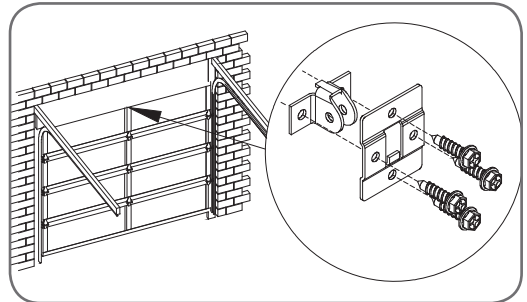

Fig. 22
The door bracket comes in two parts. The bottom plate with two mounting holes is used on its own for one piece doors. For sectional doors, the top plate is placed over the bottom plate and is fixed with four (4) screws (**Fig. 22**).
- Mount the door bracket, or bracket assembly, on the door's centre line one-third down the top panel (**Fig. 22**) using M6 or equivalent screws (not supplied),